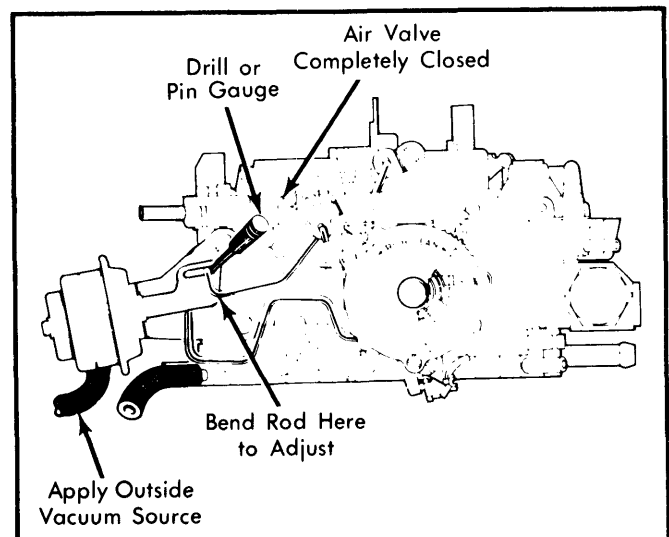

Fig. 7 Adjusting Air Valve Rod – Rear
- 1) Using an outside vacuum source, seat secondary (rear) choke vacuum break diaphragm. See Fig. 7.